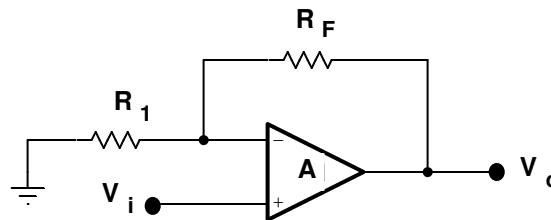

Fig.3(a)
- Q.3** Determine the voltage gain for the circuit shown in fig 3(a), with  $R_F = 100 \text{ K}\Omega$  and  $R_1 = 10 \text{ K}\Omega$
**Marks (4)**